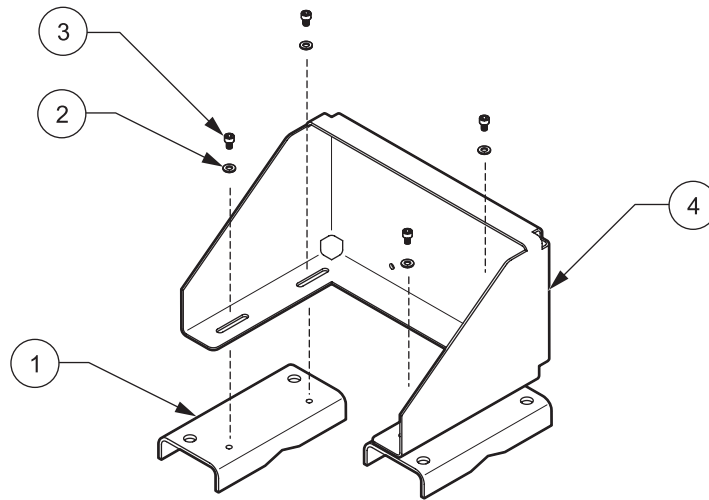

Figure 6 Installing the U profile on the angle plate
1. Loosely mount two U profiles to the angle plate with two M5 hex socket head screws and spring washers (see Figure 6 on page 7).